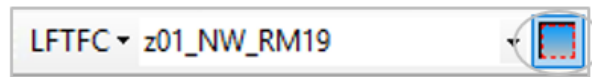

Figure 7-11. Creating a Management Unit.
- To begin, add Management Units by clicking on the MU icon located at the far right of the LFTFC toolbar, as shown below (Figure 7-11).